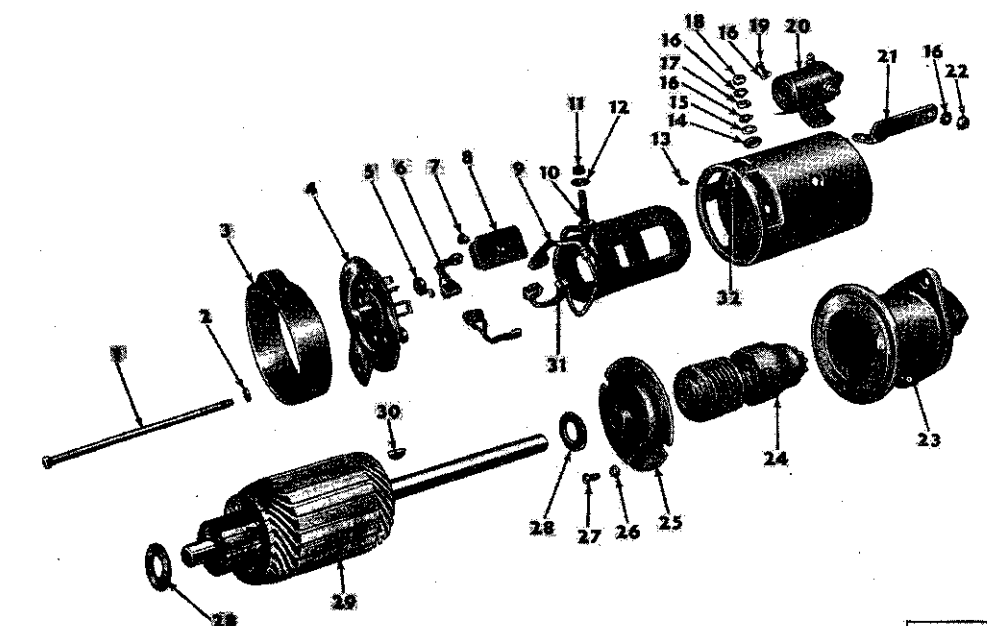

FIG. 174—TYPICAL STARTING MOTOR
Fig. 174 illustrates a typical starting motor, the internal construction of which is representative of all the motors used on the models discussed here. There are some differences in starting switch control and flywheel drive mechanism which are covered separately. Also the 12-volt starting motor has no band cover, item 3.